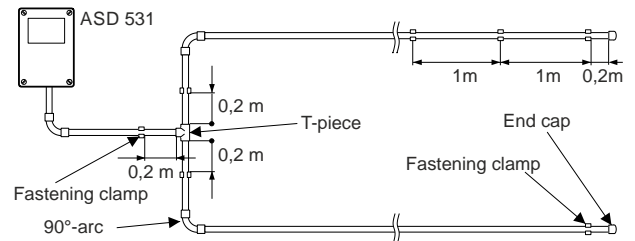

Fig. 34 90° bend, branching point
For straight layout the linear expansion can be up to **80 mm** over the total sampling pipe length (40 m) within the permitted temperature fluctuation range (20°C). It is therefore essential to ensure that the sampling pipe is able to "move" (slide) inside the pipe clamps. A distance of 100 mm (0.1 m) must therefore be maintained between the last pipe clamp and the end cap. See also Fig. 34
- A distance of at least 0.2 m must be maintained from the T-piece to the clips, starting from the branching points of the sampling pipe, Fig. 34.